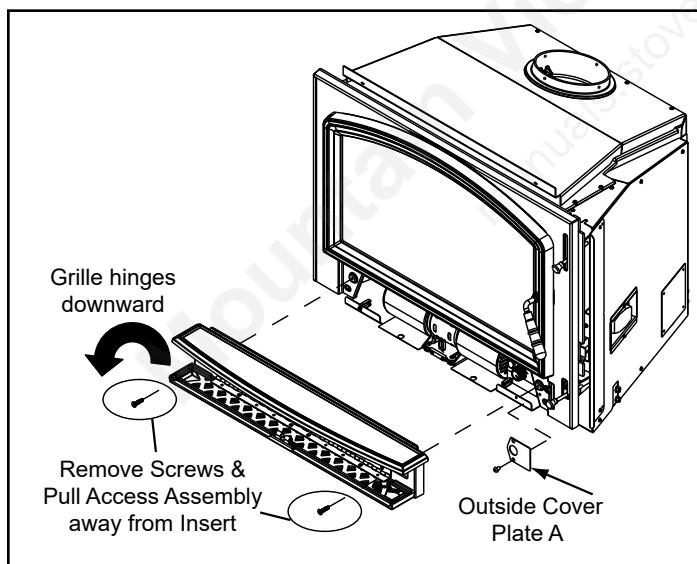

Figure 9
1. Swing grille down to expose the two screws (Figure 9).